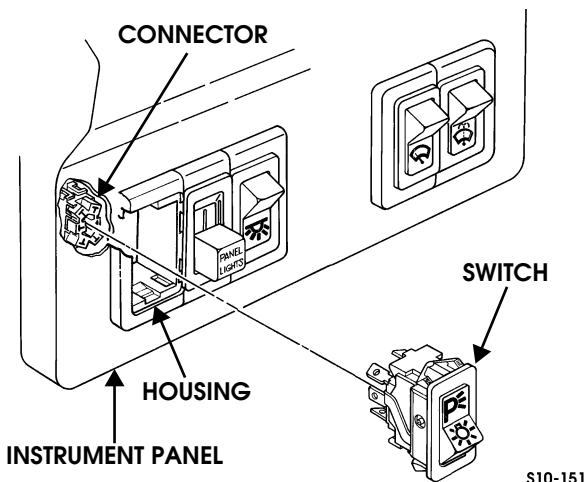

Figure 2-87: Instrument Panel Switch Replacement
3. Remove connector from switch (Figure 2-87).
1. Install connector on switch (Figure 2-87).